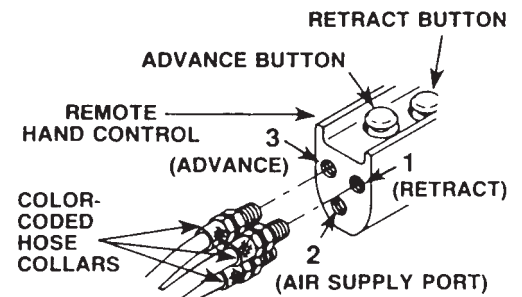

FIGURE 1
- Note that the male fittings of the hose are either stamped with the numbers "1", "2", or "3" or they are identified by color on each end. Connect the hoses to the remote hand control by matching the numbers stamped on the hoses to the hoses to the corresponding numbers stamped near the inlets of the remote hand control. See Figure 1.